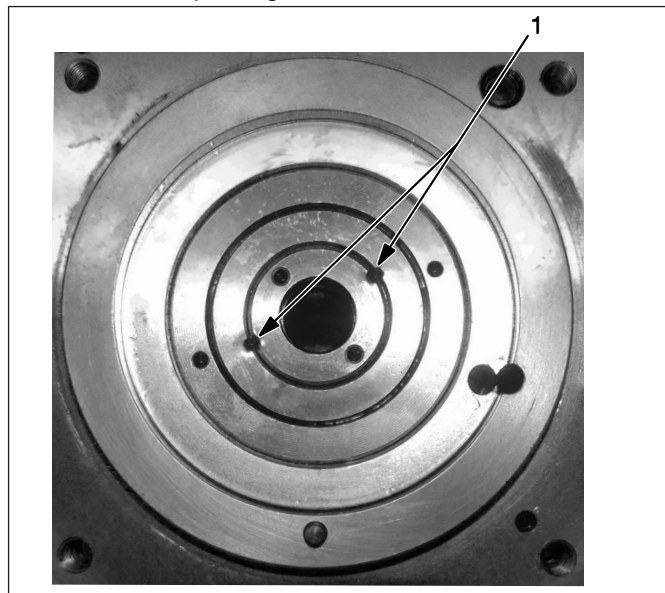

Figure 7, Peening Indentations
2. Identify the two peening indentations (Figure 7, Item 1).